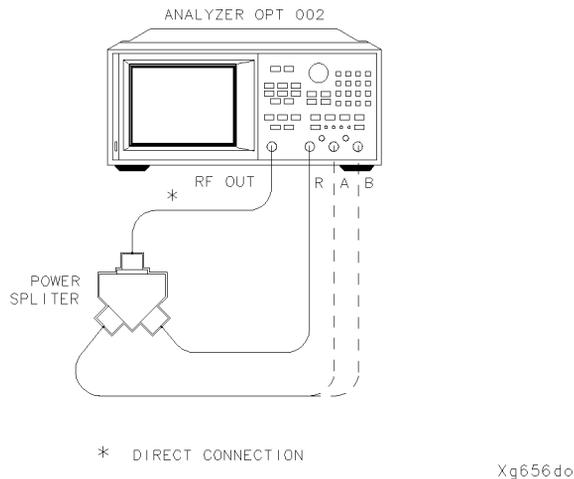

Figure 6-33. Source and Receiver Harmonics Test Setup
- 18 Connect the equipment as shown in Figure 6-33.